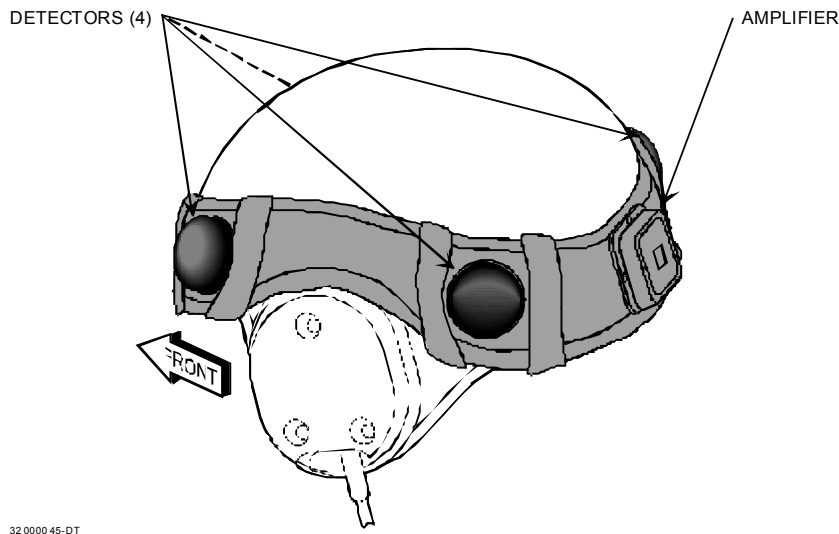

Figure 2-11. Helmet Harness (CVC)
2.3.1.1.1 Helmet Harness Installation for CVC Helmet. (See Figure 2-11.)